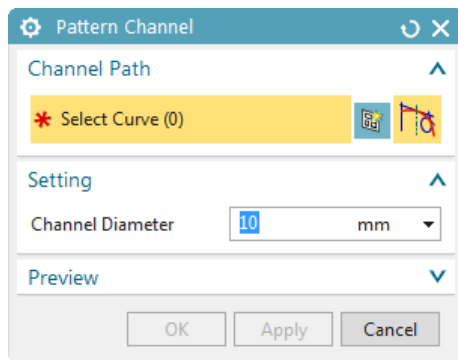

Figure 16-130 The Pattern Channel dialog box
1. Choose the **Pattern Channel** tool from the **Cooling Tools** gallery of the **Mold Wizard** tab; the **Pattern Channel** dialog box is displayed, refer to Figure 16-130.